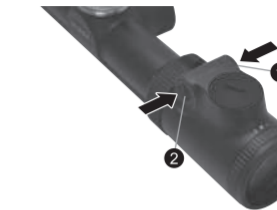

Fig. 3-8
Press the "+" illumination adjustment button ① or "-" illumination adjustment button ② to turn on the illumination (Fig. 3-8).